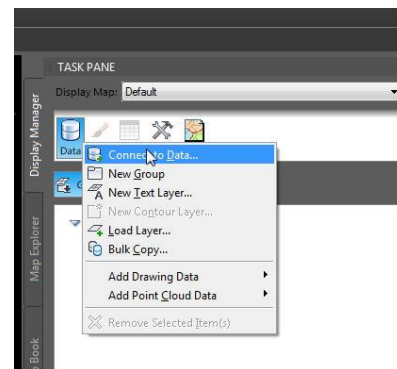

Figure 30: Map Task Pane and Data Connect
- Open the Map Explorer Task Pane (Figure 30)